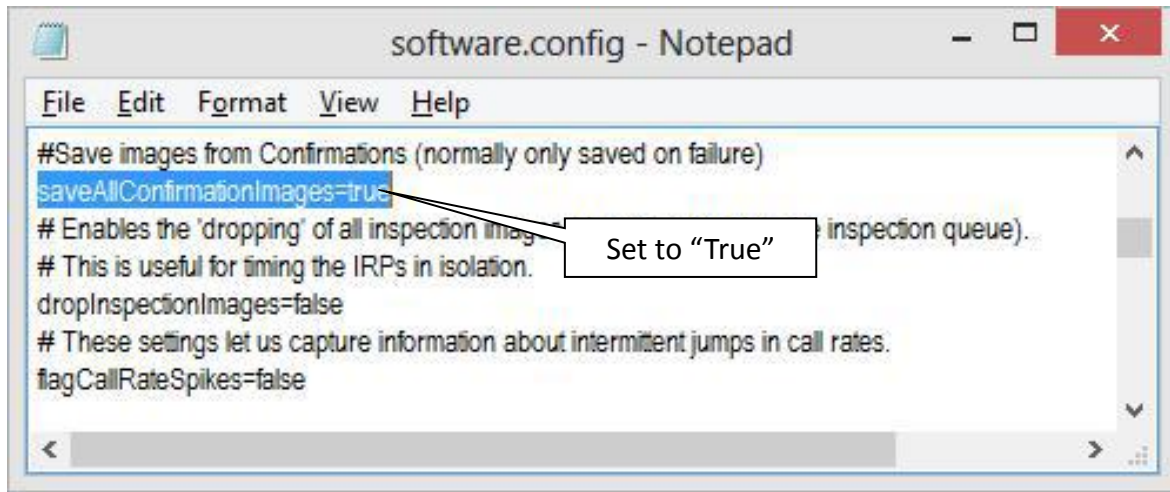

Figure 1 Software Config
2. Search for “saveAllConfirmationImages”, set indicator value to “true” and save config. Show as Figure 1.